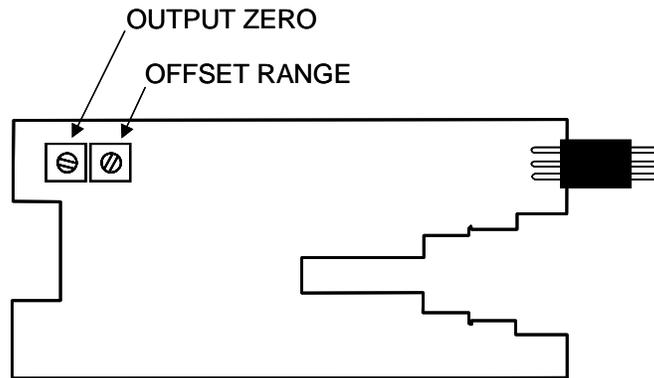

Figure 8-2 Adjustment Locations
6. Adjust **OFFSET ZERO** on the board until the DMM reads 0 V \pm 100 μ V. Refer to figure 8-2 for adjustment location.